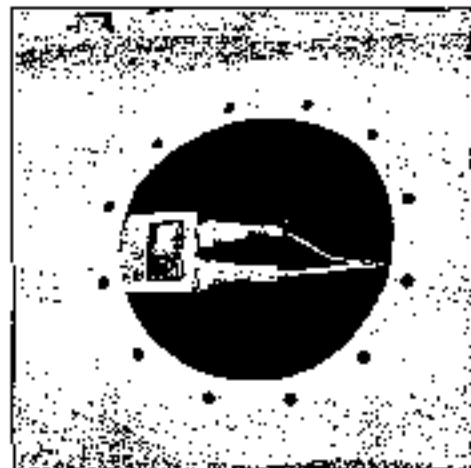

Fig. 7-29 Tip tank fuel quantity indicator tank unit
- (1) Drain integral tank.
- (2) Open upper access door W STA 1250 to 1600 of outboard tank.
- (3) Remove electric connector from tank unit.
- (4) Remove bolts which attach tank unit, and take out tank unit through access door.
- (5) Install in reverse sequence of removal. Installation torque of access door attaching screws is 30 to 35 in-lbs (35 to 40 kg-cm).
7.2.3 REMOVAL AND INSTALLATION OF TIP TANK UNIT (See Fig 7-29)